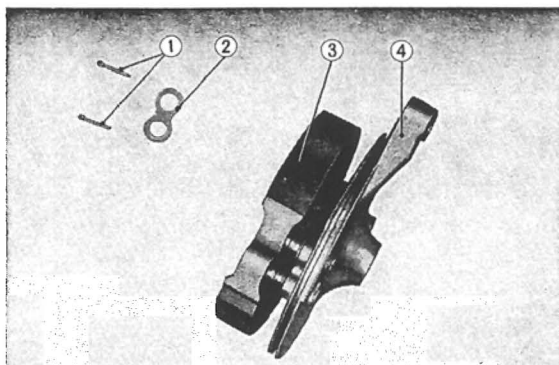

Fig. 4.94 Removing the rear brake shoe
- ① Dial gauge
- ② Rear wheel rim
7. Remove 2.5×20mm cotter pin and anchor pin washer. Separate the brake arm from the panel in order to extract the rear brake shoe. (Fig. 4.94)